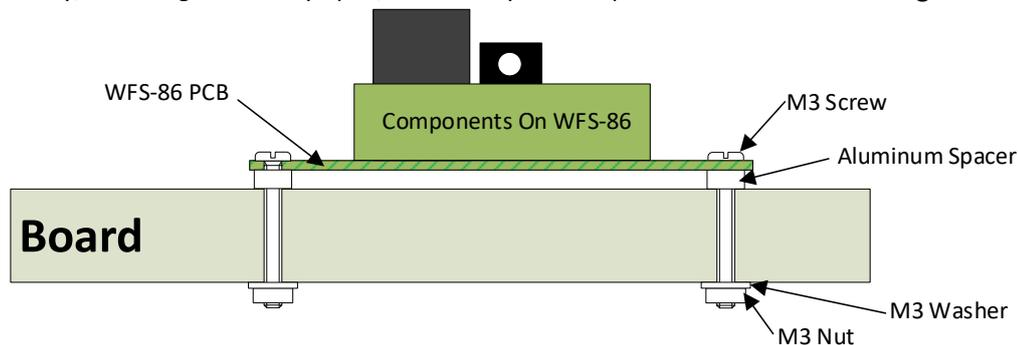

Figure 6 Mounting Suggestion
- (7) Mount the unit to your baseboard using the four M3 metric screws, nuts and spacers provided. Mount the unit on a suitable piece of board, either your baseboard (top or bottom) or a separate board perhaps at the front of your model railroad. The component side of the module should face away from the board as in Figure 6. Take care that no part of the unit touches any metal as this may cause a short circuit and result in permanent damage. Do not mechanically stress or bend the module as this may cause permanent damage. **Take care to ensure that there is adequate ventilation to avoid overheating.**
- (8) Turn on the power. If you have installed manual push buttons you may test the unit by pressing each button momentarily in turn. If you have not installed push buttons, refer to the Tower Operator Quick Start, or Full Help Pages for instructions on setting up a schematic control panel on your Windows or Android computer or tablet.